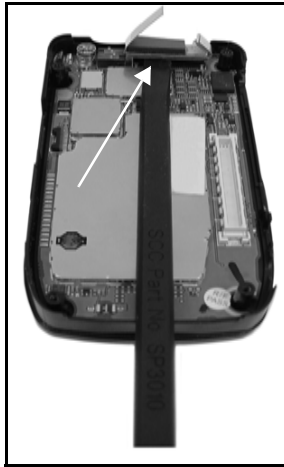

Figure 7-16.
1. Insert flat tip of Black stick just under the Flip Flex Connector, between the connector and the shield (see Figure 7-16).